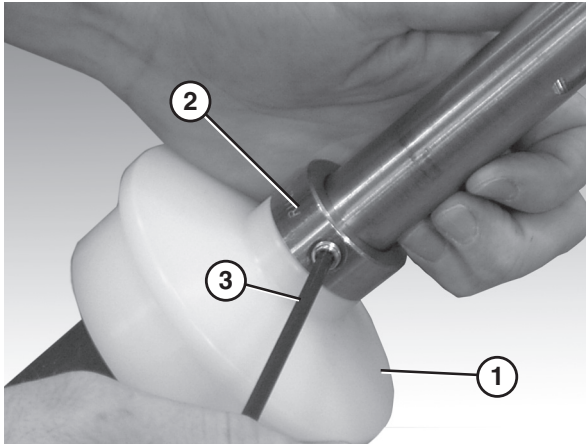

Figure 84
5. Slide the second flanged puck (Figure 84, item 1) and the retaining ring (Figure 84, item 2) onto the drive spindle.
6. Tighten the retainer ring fastener (Figure 84, item 3) using a hex wrench.